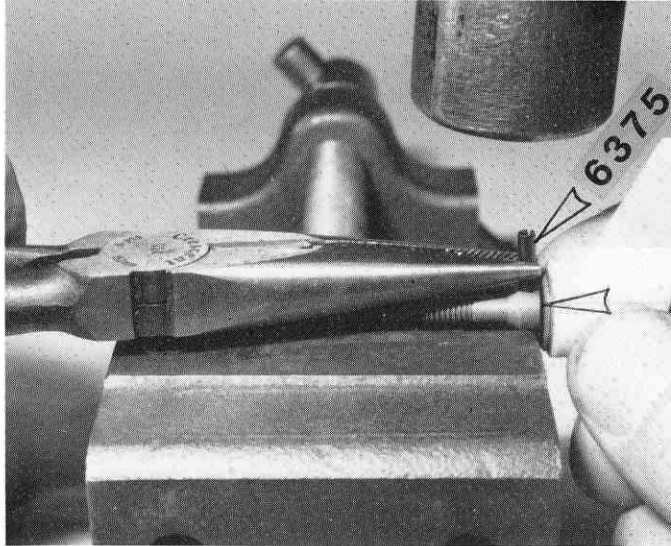

Fig. 83
□ **Fig. 83 & 83a** For this step you may need 3 hands, so get a friend to help you. Set the axle on a vise or a flat surface. Hold the roll pin or slotted pin with a needle nose pliers and align the pin with the hole in the axle. Lightly tap the pin in the axle so it's evenly spaced. These parts are in bag #6-8.